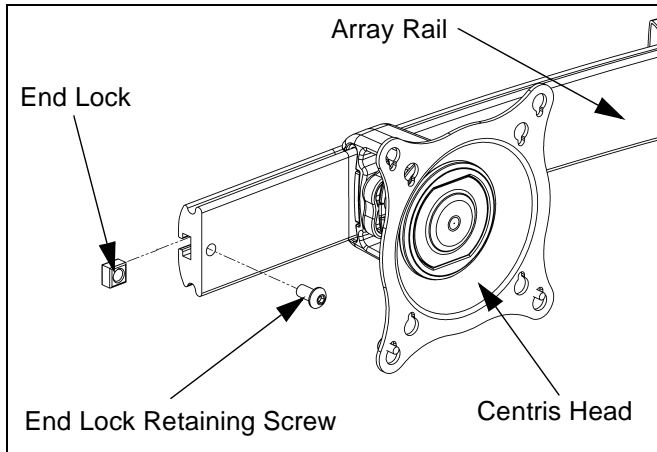

Figure 10: Install End Lock(s)
8. Install end locks into mounting rail using the 5/32" hex key (80). (See Figure 10)